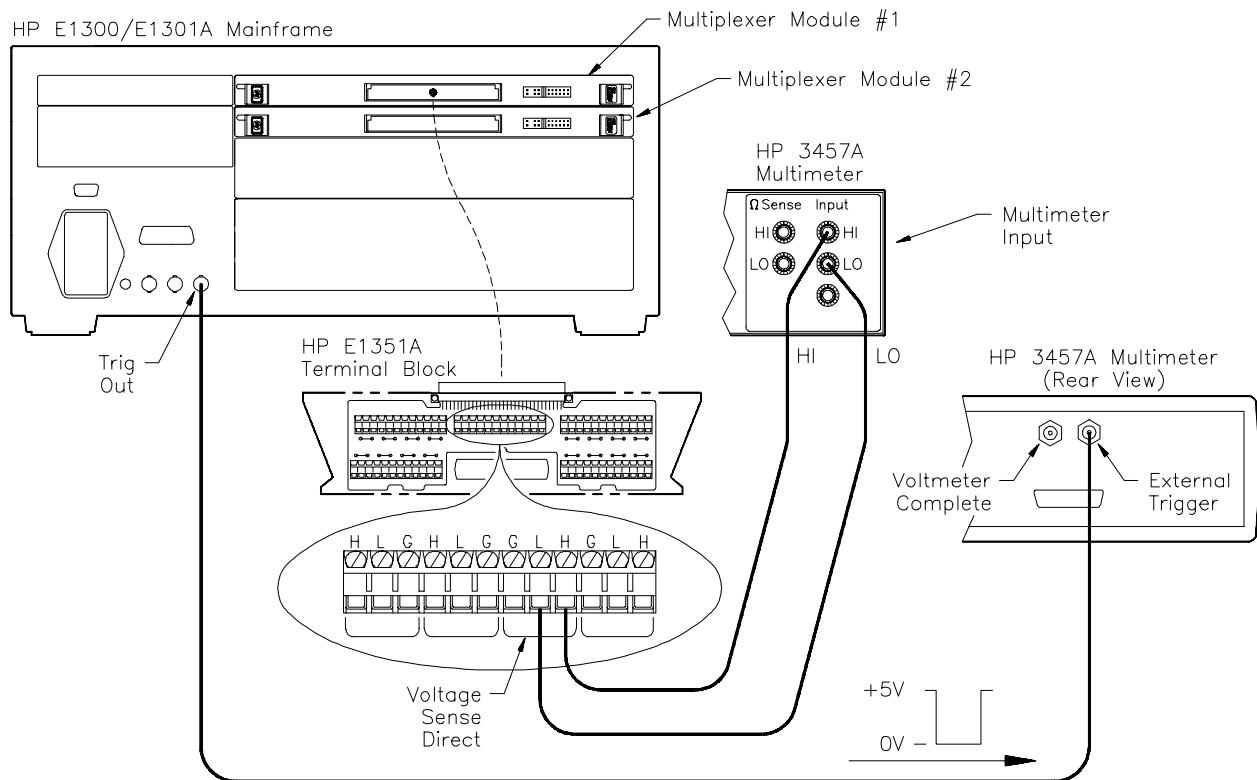

Figure 3-5. Mainframe to Multimeter Connection for Synchronization
- A Tree Terminals of each terminal module connect to each other and to the multimeter in Figure 3-5. To connect the A tree terminals to each other, use either the analog bus cables (shown in Figures 2-10 and 2-11) or wire the terminals together between the terminal modules.